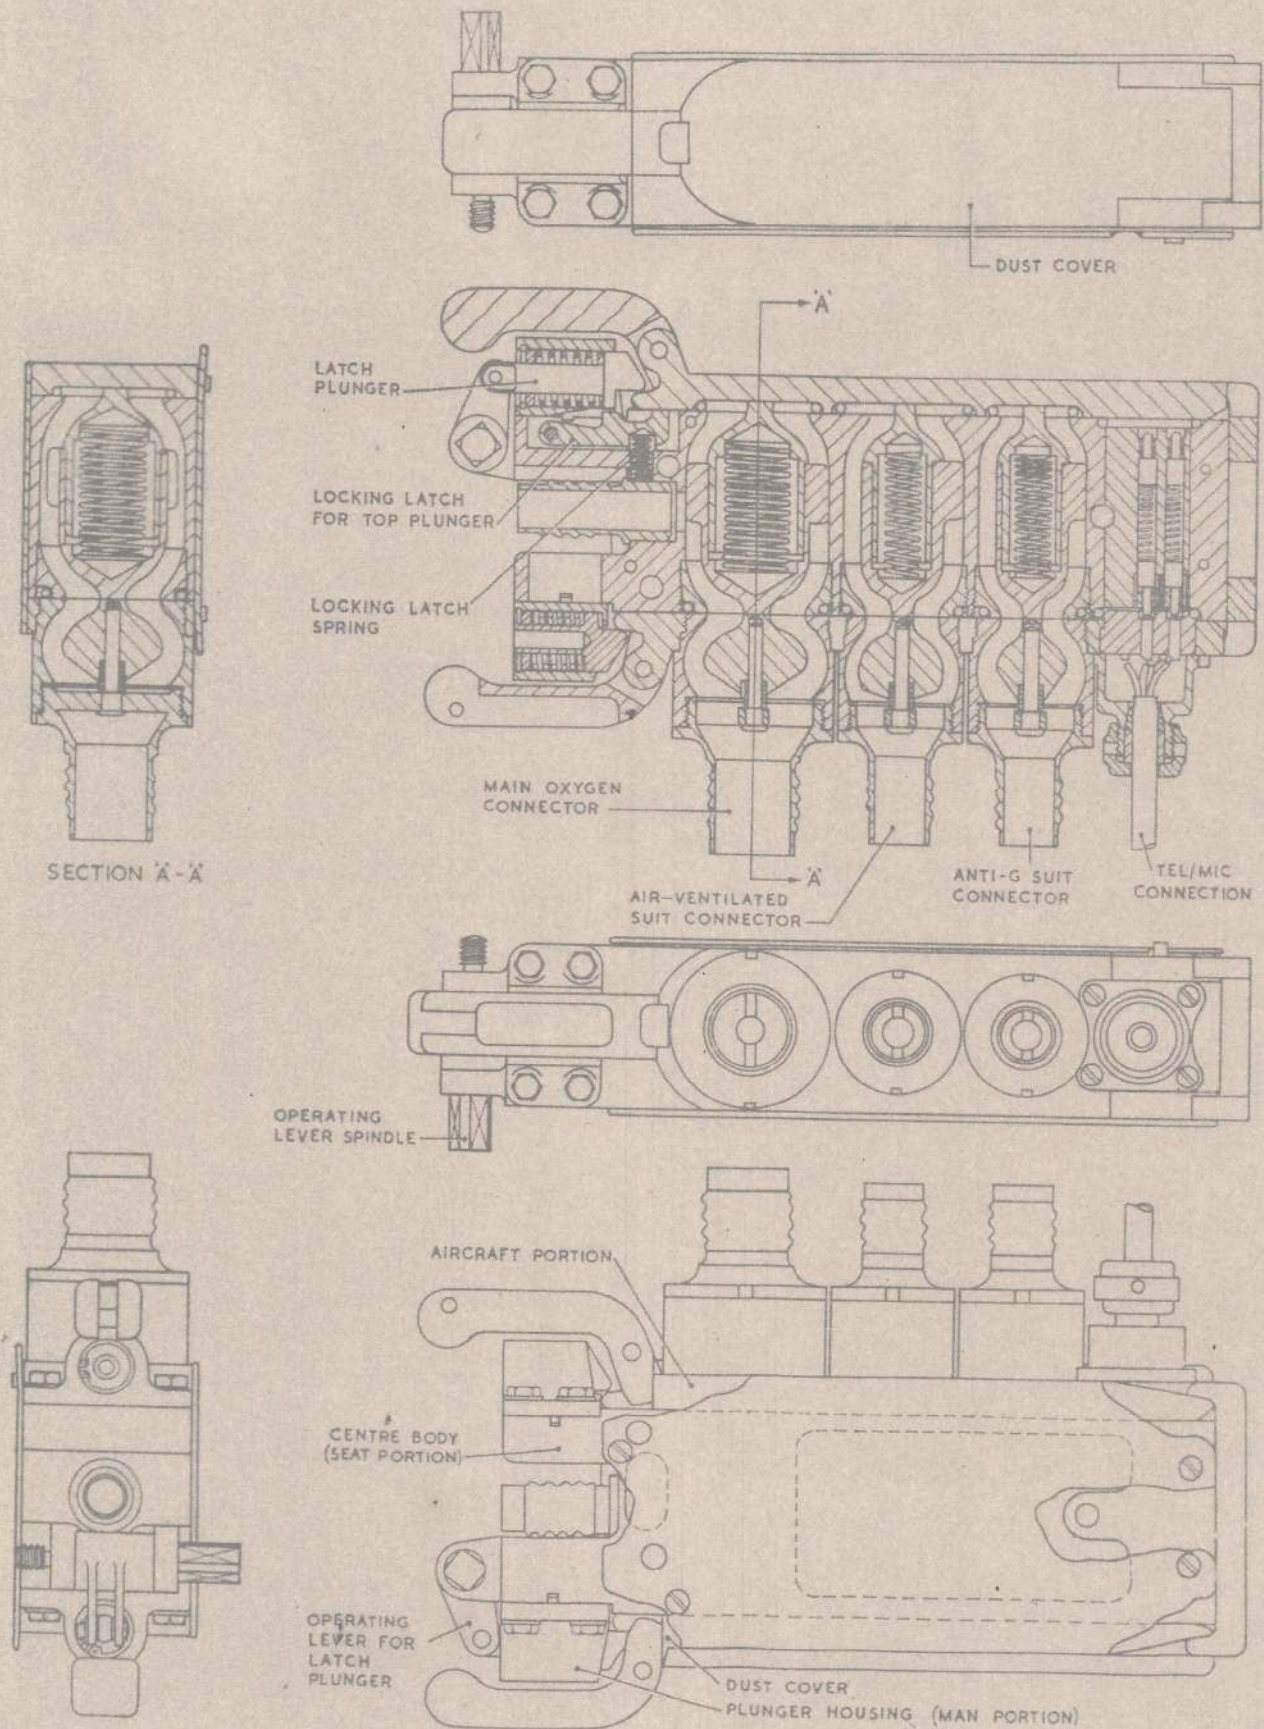

Fig. 1. Details of aircraft and seat components (with dust cover)
4. The personal equipment connector (fig. 1 and 2) consists of three main parts — the aircraft component, the seat component and personal (or man) component. The aircraft component remains in the aircraft at all times and is attached to the supply services by anti-kink hose. All services in this portion are provided with valves which shut automatically on disconnection. The object of this is to prevent the oxygen and air supplies from wasting to atmosphere and so reducing the supplies to other crew members. The Tel/Mic. contact is also broken when the components are separated and this is effected by a short static line anchored to the aircraft floor. As the ejection seat ascends the guide rail, the static line pulls the operating lever which retracts the plunger and so allows the aircraft component to fall away, no action is required by the seat occupant.